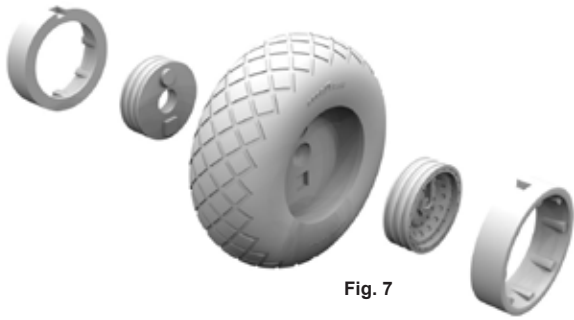

Fig. 7
1. Assemble main wheels and nose wheels as shown in Fig. 7 and 8. Parts are keyed to each other for proper alignment. If fit is too tight, lightly sand around outer edges of wheel parts until wheels drop easily into tires.